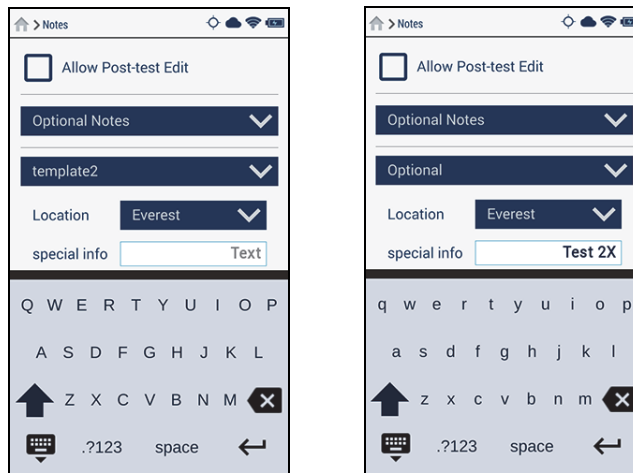

Figure 2-30 Special info field before (left) and after (right) fill-in
6. Fill in any editable fields, if desired (see Figure 2-30 on page 47).